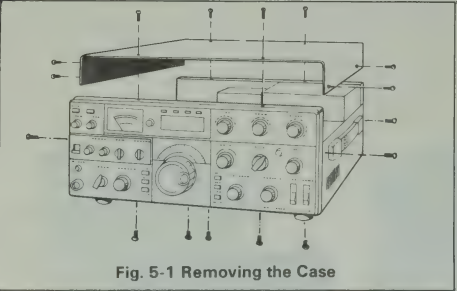

Fig. 5-1 Removing the Case
■ REMOVING THE CABINET (See Fig. 5-1)
Figure 5-1 illustrates cabinet removal. Remove the eight top-cover and eight bottom-cover screws and lift a way the panels.